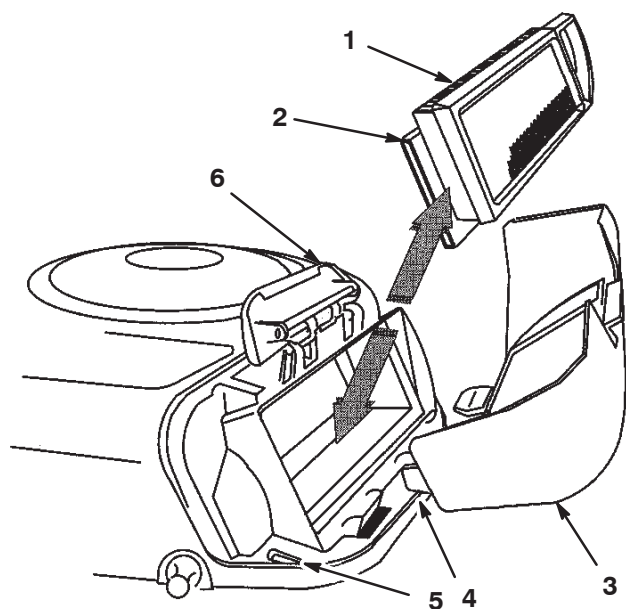

Figure 31
- Carefully slide the paper element and the foam element from the blower housing (Fig. 31).
- Align the tabs on the air cleaner cover with the slots of the blower housing (Fig. 31). Hook the handle onto the cover and press down on the handle to lock the cover in place.